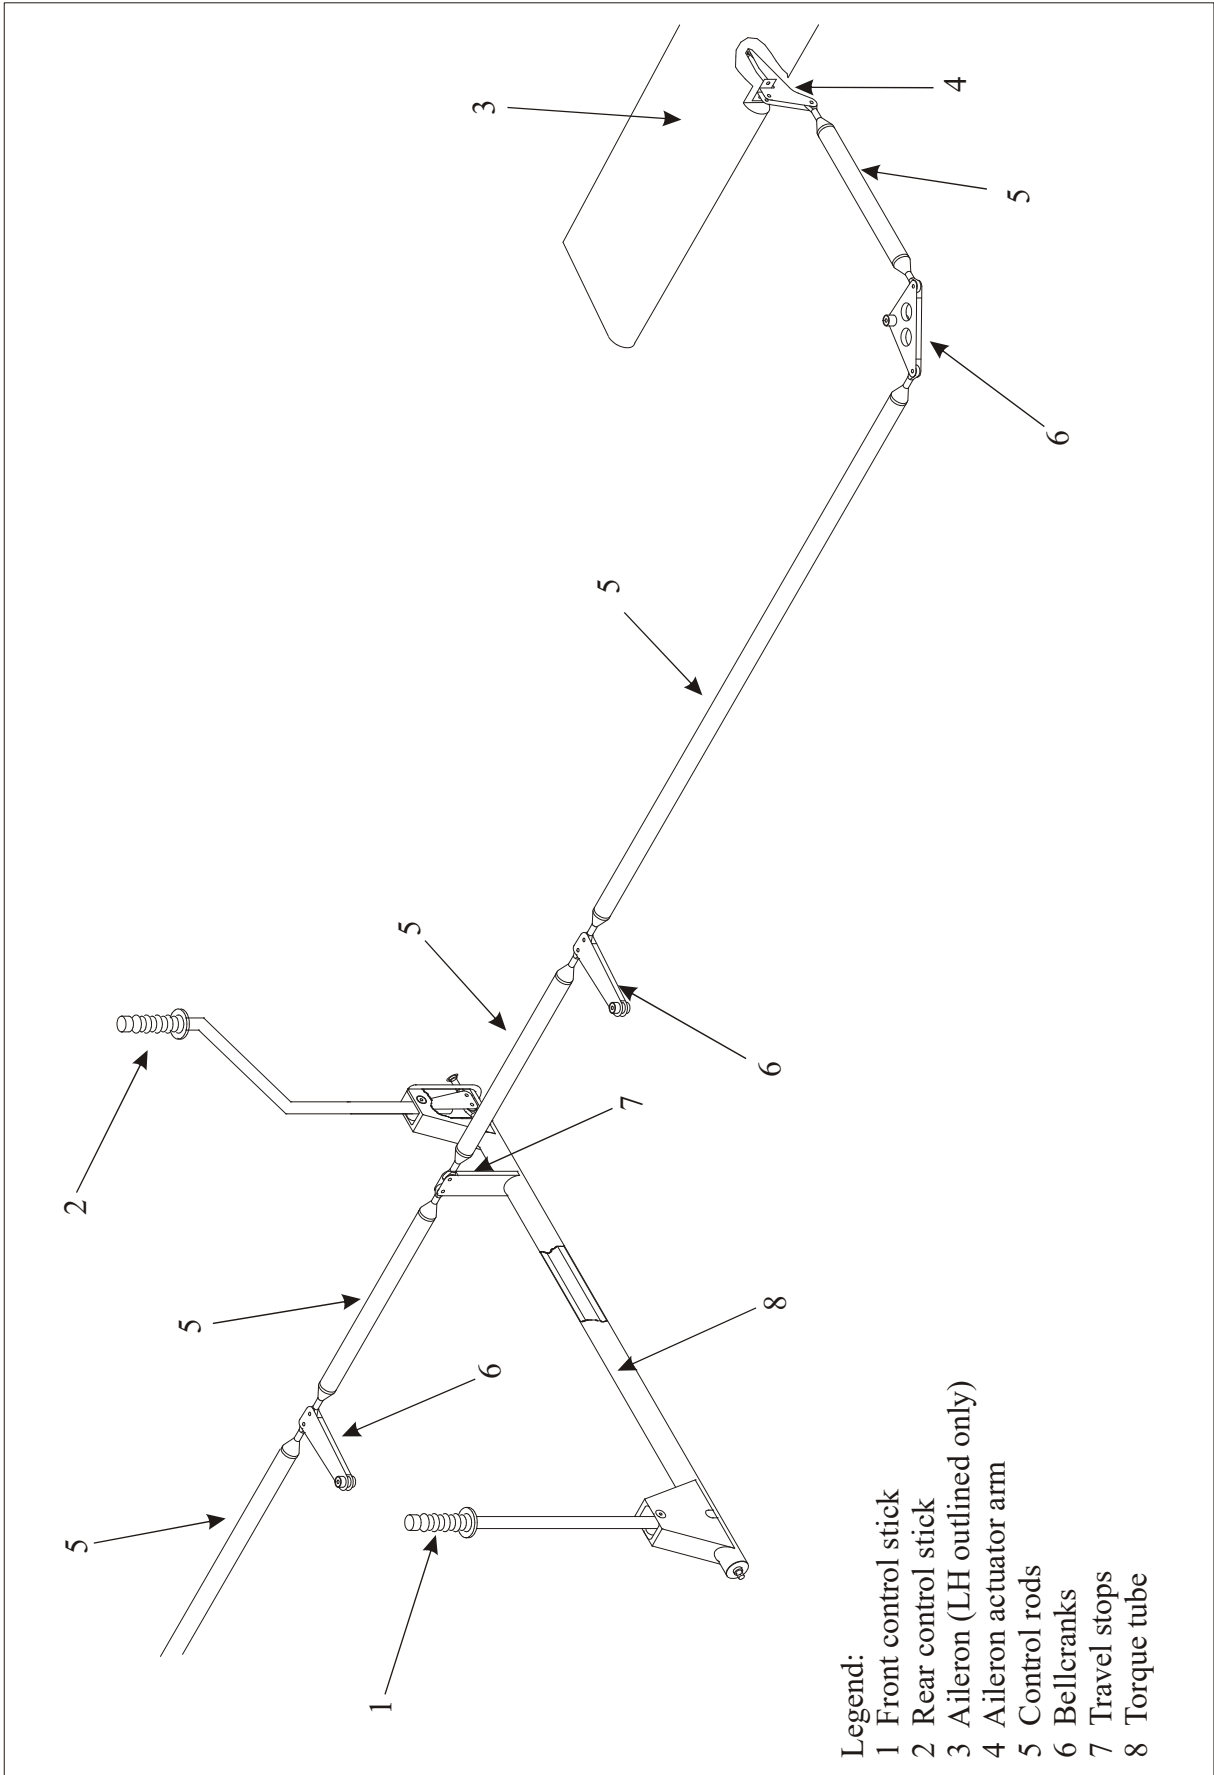

Figure 10
(Refer to Figure 10) The aileron (3) is directly mechanically linked to the control sticks (1, 2) by the aileron actuator arm (4) with spade arm, push-pull rods (5), bellcranks (6) and the torque tube (8). The bell cranks have two sealed ball bearings. Each aileron is mounted at four points in spherical bearings pressed into aluminium hinge arms. For lightning protection reasons each hinge arm is electrically bonded to the corresponding attachment bracket at the aileron by bonding braids. The rod end bearings of the push-pull rods located in the wing are also interconnected by bonding braids. The travel stops (7) are located at the torque tube (8) next to the rear control stick.